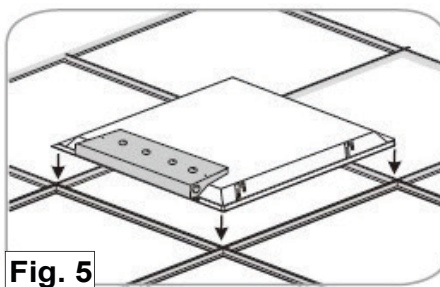

Fig. 5
5. Position fixture on ceiling grid, engaging earthquake clips on grid rails (Fig. 5).